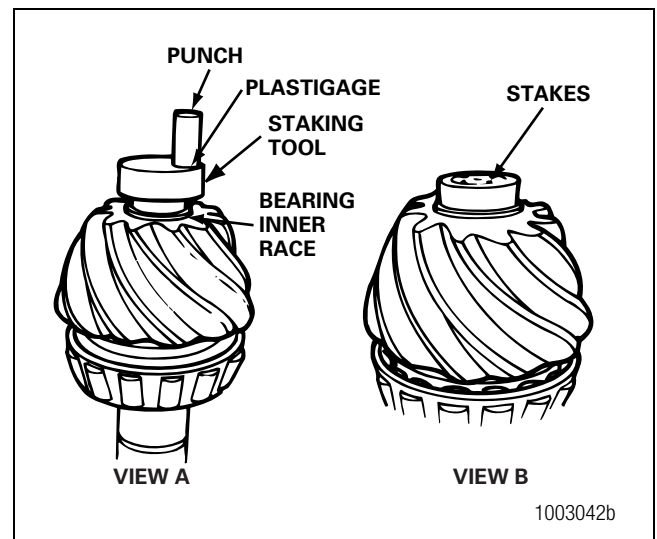

Figure 5.11
- Place the staking tool over the bearing race. Cut a one-inch (25 mm) piece from the green plastigage strip and place in between the punch and the staking tool. You do not need to use the plastigage for every stake. Use the plastigage until you are sure that you are hitting the punch with the correct amount of force. Figure 5.11.
- Strike the punch with a two-three pound (0.9-1.4 kg) brass hammer to upset the end of the pinion stem. Remove the strip and measure its thickness against the gauge on the strip's wrapper. The strip must not be less than 0.003-inch (0.0762 mm) thick. This thickness indicates that you are using enough force when you hit the punch. If the strip is too thin, then you must hit the punch harder so the stake will hold the race in place. Rotate the tool and repeat this procedure until there are six evenly spaced stake marks around the stem. Figure 5.11.